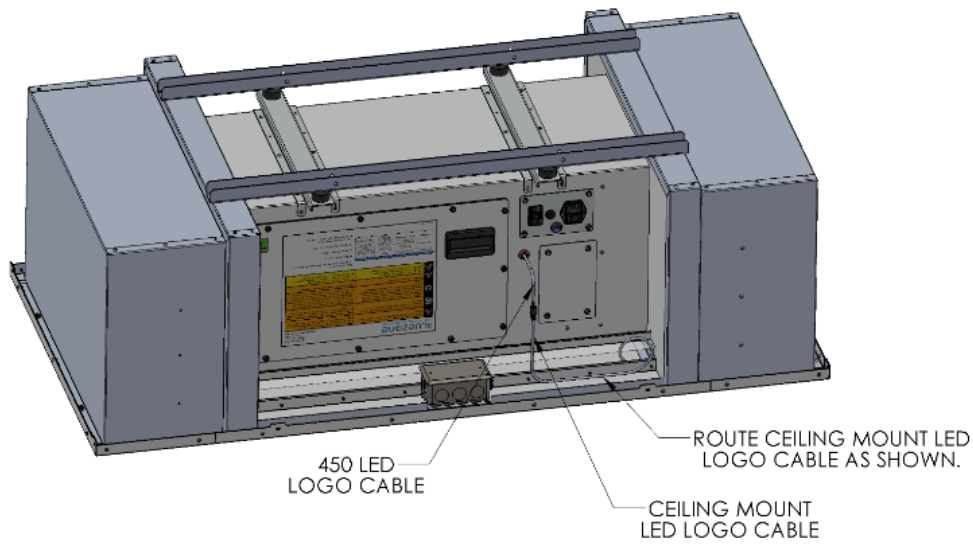

Figure 17: Routing and Connecting LED Cable
6. Route the Ceiling Mount LED cable from the ceiling mount door down next to the Model 450 chassis. Close and latch the door. Connect the LED logo cable from the door to the LED logo cable from the Model 450. See Figure 17.